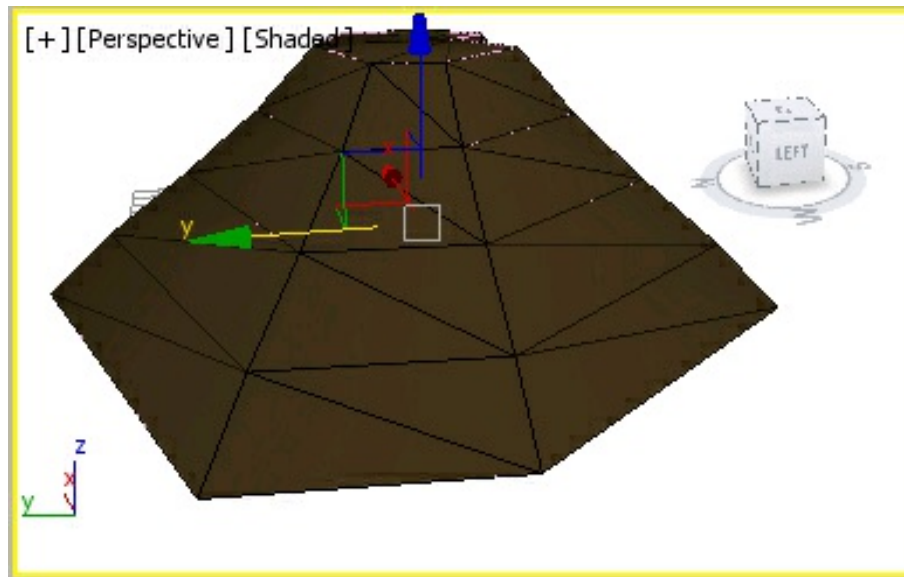

Figure 11-96 *The map assigned to hill01*
13. Make sure that *hill01* is selected in the viewport. Next, choose the **Assign Material to Selection** tool in the **Material Editor** dialog box. Then, choose the **Show Shaded Material in Viewport** tool to display the map in the viewport. The map is assigned to *hill01*, as shown in Figure 11-96. Now, close the **Material Editor** dialog box.